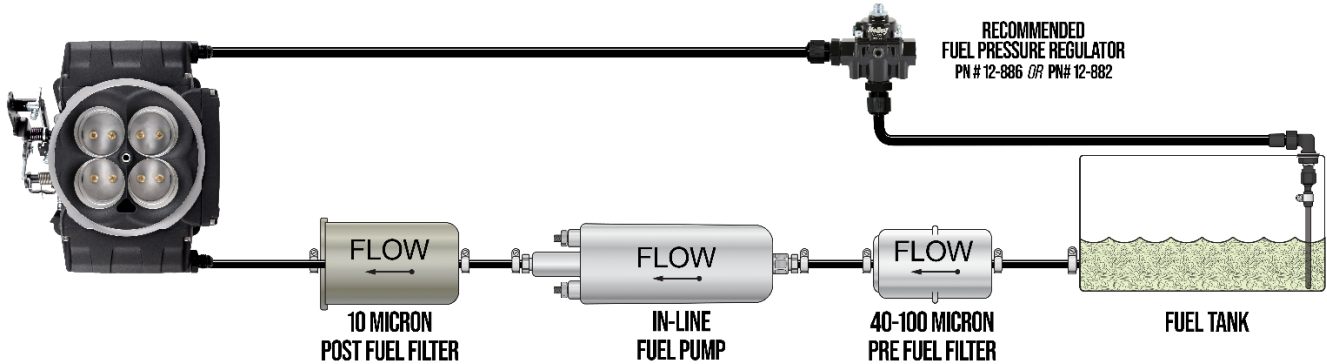

FIGURE 4
6. Connect fuel feed and return hose to the throttle body. The throttle body has a cast in fuel crossover, passing fuel from the front bowl to the rear bowl. Either fitting can be used as inlet or outlet. The inlet fuel should come from the pump through a filter and the **outlet fuel should go to an external regulator set between 55-65 PSI**. We recommend at least a 3/8" feed line and 3/8" return line. See **Figure 4**